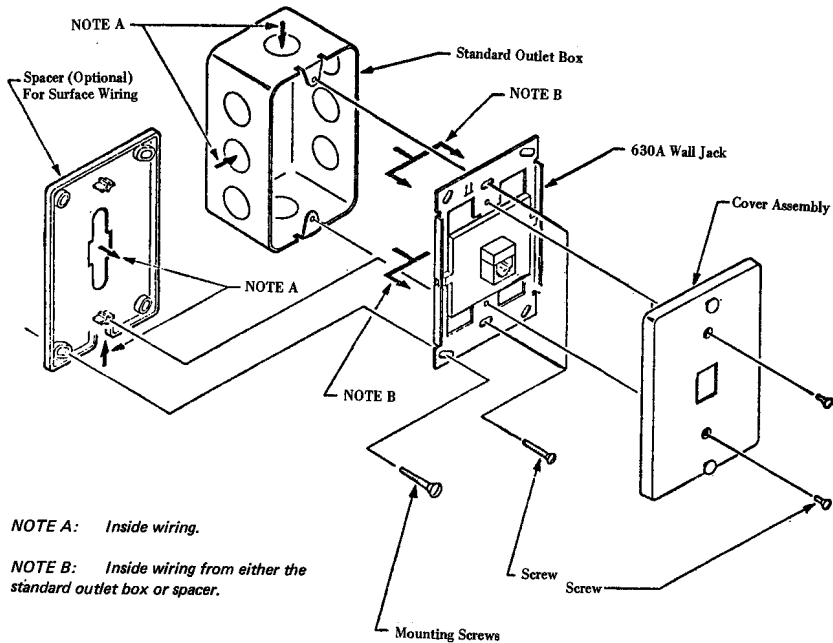

FIGURE 17. 630A Miniature Wall Jack
d. Install the wall telephone mounting cover using the screws provided. See Figure 17.
e. Install the cover plate using the two screws provided. See Figure 17.